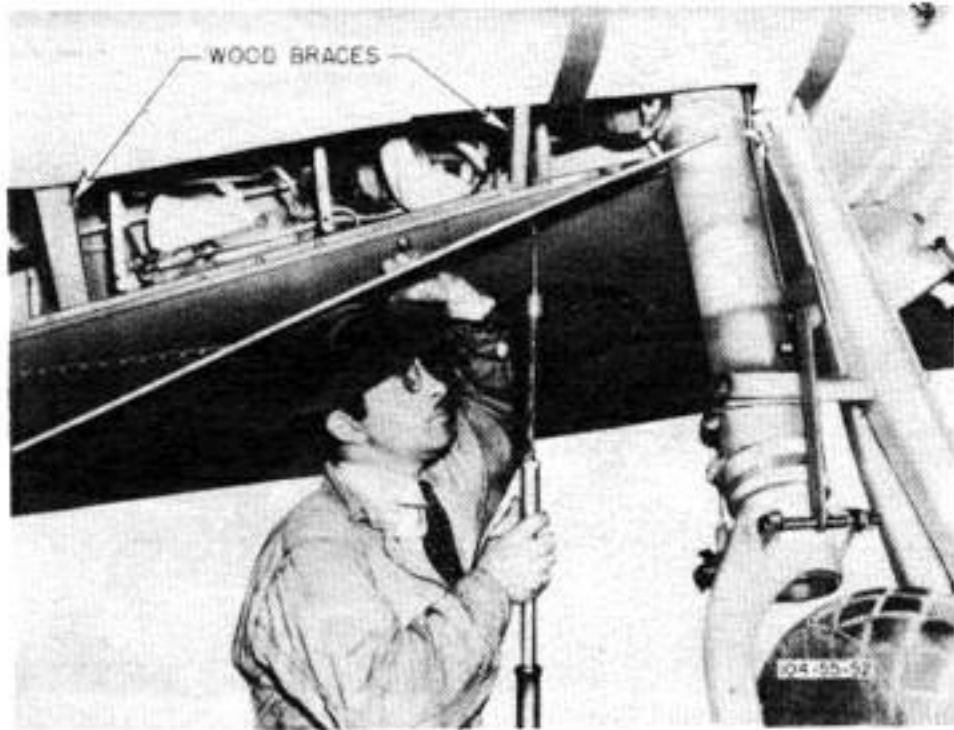

Figure 23—Wheel Well Plywood Cover
g. Place shield in position and fasten with three $1\frac{1}{4}$ -inch screws and $\frac{1}{2}$ -inch washers to 2 x 3-inch cleat, and two $1\frac{1}{2}$ -inch screws to 1 x 2-inch cleat. (See figure 23.) The overlap of the shield will keep the inboard door closed.
(9) PROCESSING WHEELS AND STRUTS.